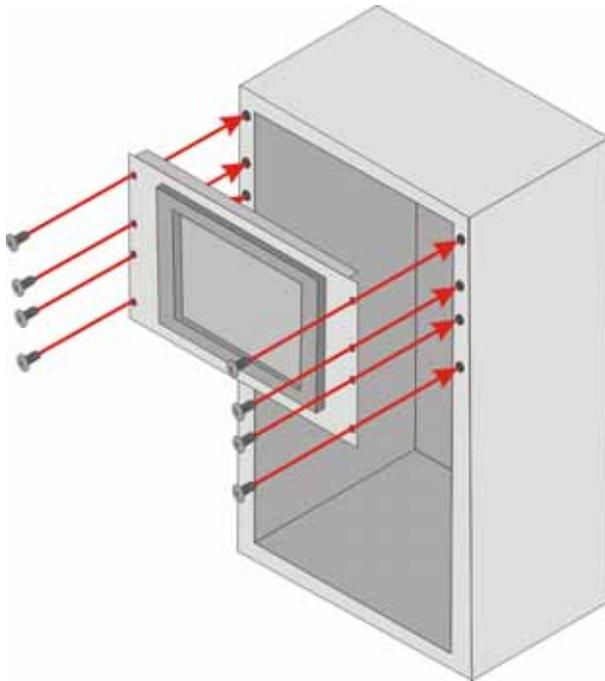

Figure 3-19: Install into a Rack/Cabinet
- Step 5:** Slide the EX-93821/EX-93823 flat panel PC with the attached rack/cabinet bracket into a rack or cabinet (**Figure 3-19**).
Step 6: Once the EX-93821/EX-93823 flat panel PC with the attached rack/cabinet bracket has been properly inserted into the rack or cabinet, secure the front of the rack/cabinet bracket to the front of the rack or cabinet (**Figure 3-19**).